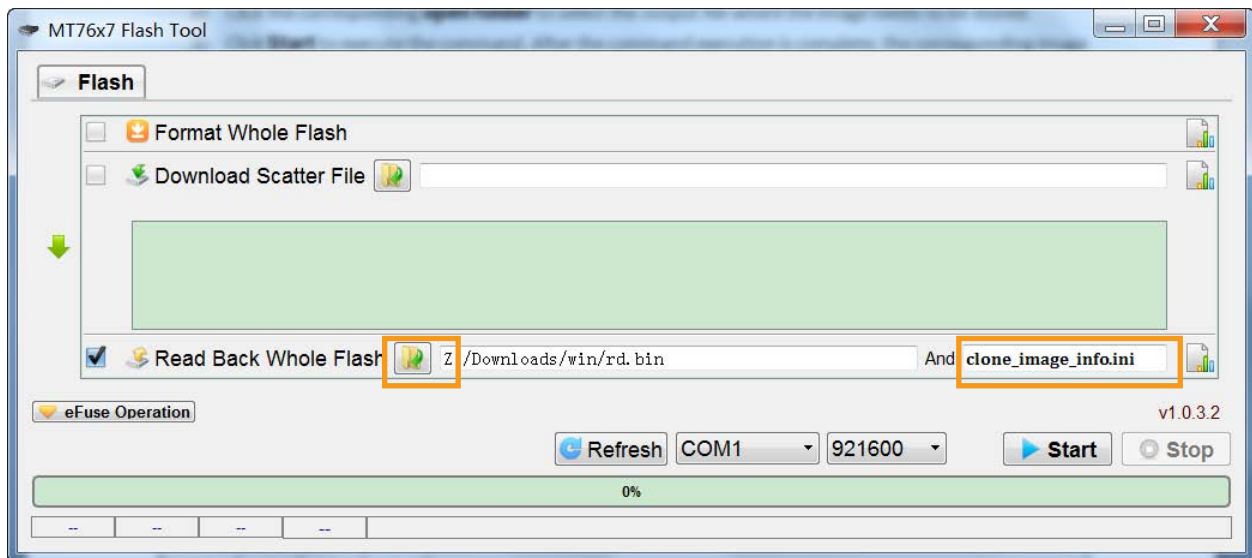

Figure 7. Reading back the whole flash
- 3) Click **Start** to execute the command. After the command execution is complete, the corresponding image description file named “`clone_image_info.ini`” will be generated in the same folder, as shown in Figure 7.